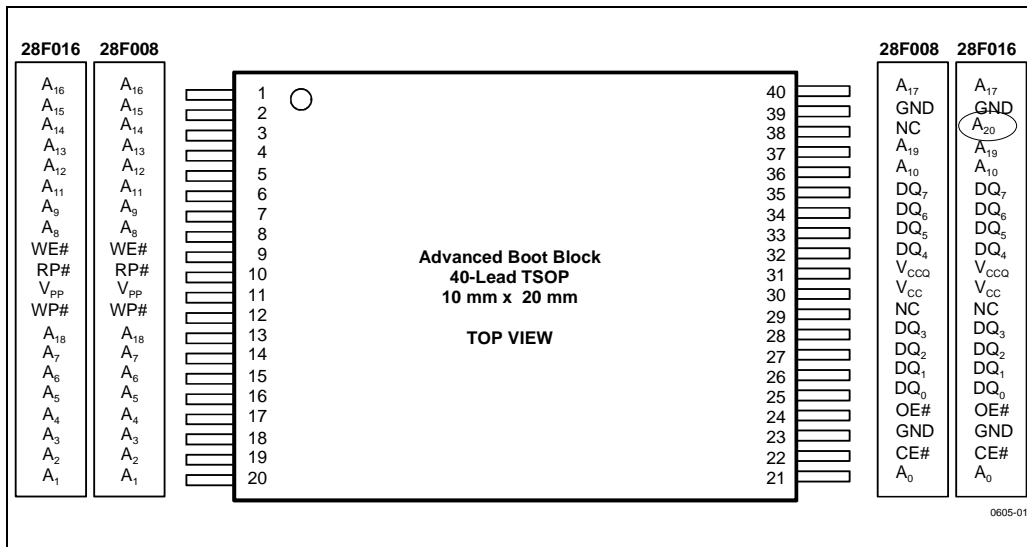
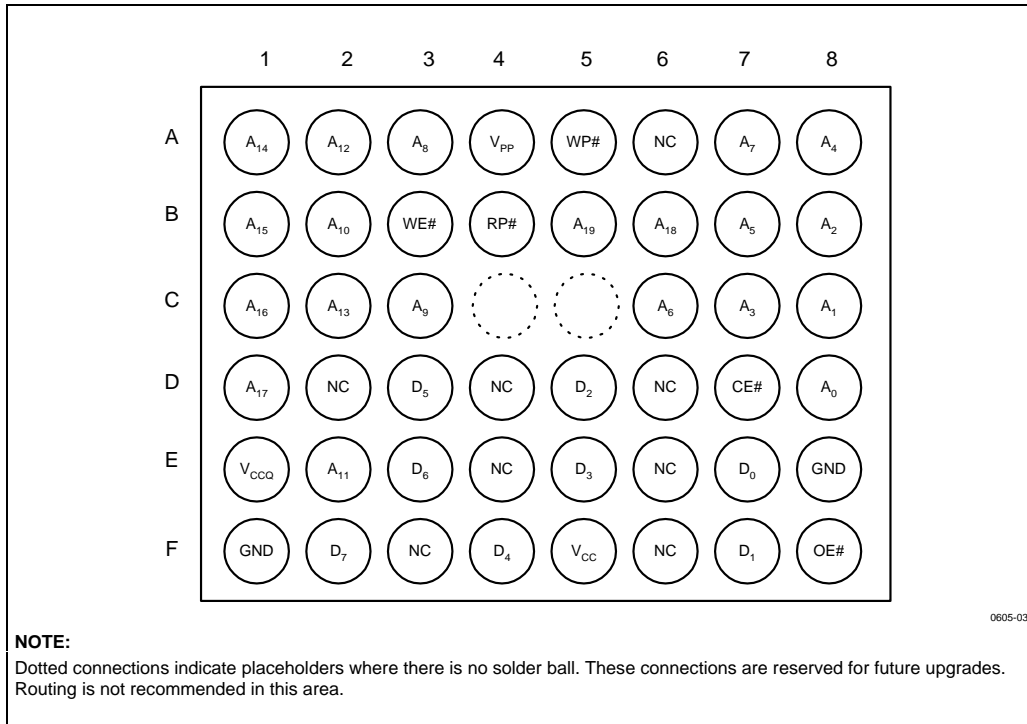

Figure 1. 40-Lead TSOP Package
Figure 2. 8-Mbit 48-Ball  $\mu$ BGA\* Chip Size Package
- VCCQ input for 1.8V–2.2V on all I/Os. See Figures 1–3 for pinout diagrams and VCCQ location
The Smart 3 Advanced Boot Block flash memory is available in 40-lead TSOP (see Figure 1) and 48-ball  $\mu$ BGA packages (see Figures 2 and 3). In Figure 1, pin changes from one density to the next are circled. Both packages, 40-lead TSOP and 48-ball  $\mu$ BGA package, are 8-bits wide and fully upgradeable across product densities (from 8 Mb to 16 Mb).